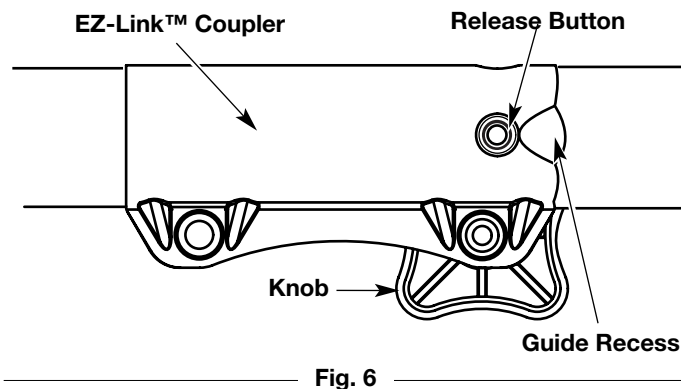

Fig. 6
1. Turn the knob counterclockwise to loosen (Fig. 6).
2. Press and hold the release button (Fig. 6).
1. Turn knob counterclockwise to loosen (Fig. 6).
NOTE: Aligning the release button with the guide recess will help installation (Fig. 6).